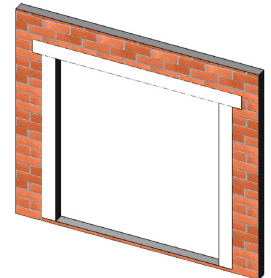

Figure 19:
3. Finally, at the head, embed the flashing into the sealant on the mounting flange and fasten into place. The flashing paper should be cut sufficiently long enough to extend past the flashing paper at each jamb by at least 3 in (Figure 19).